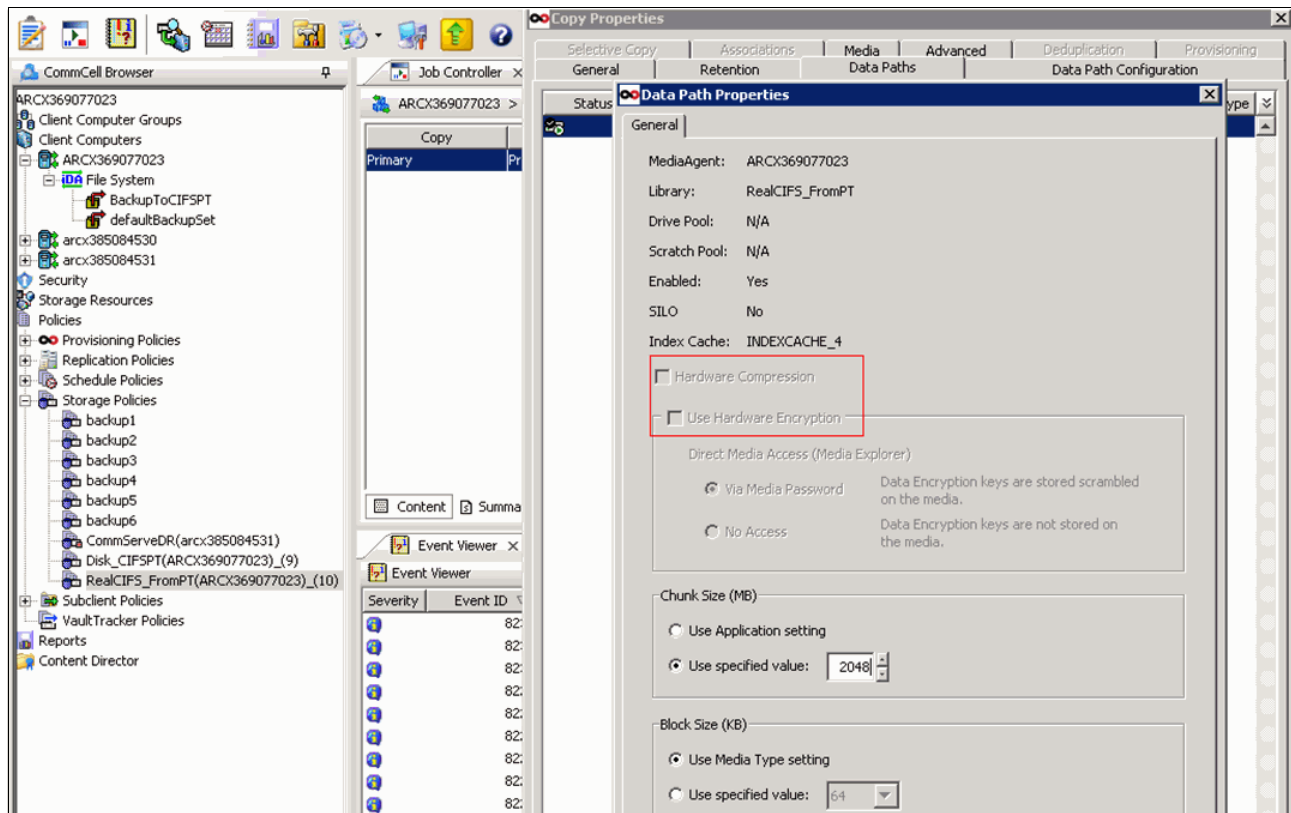

Figure 18-18 Clearing/enabling hardware compression
4. From the Data Path Properties dialog box, clear the **Hardware Compression** check box to disable hardware compression. Clear the **Use Hardware Encryption** check box to disable hardware encryption (Figure 18-18).